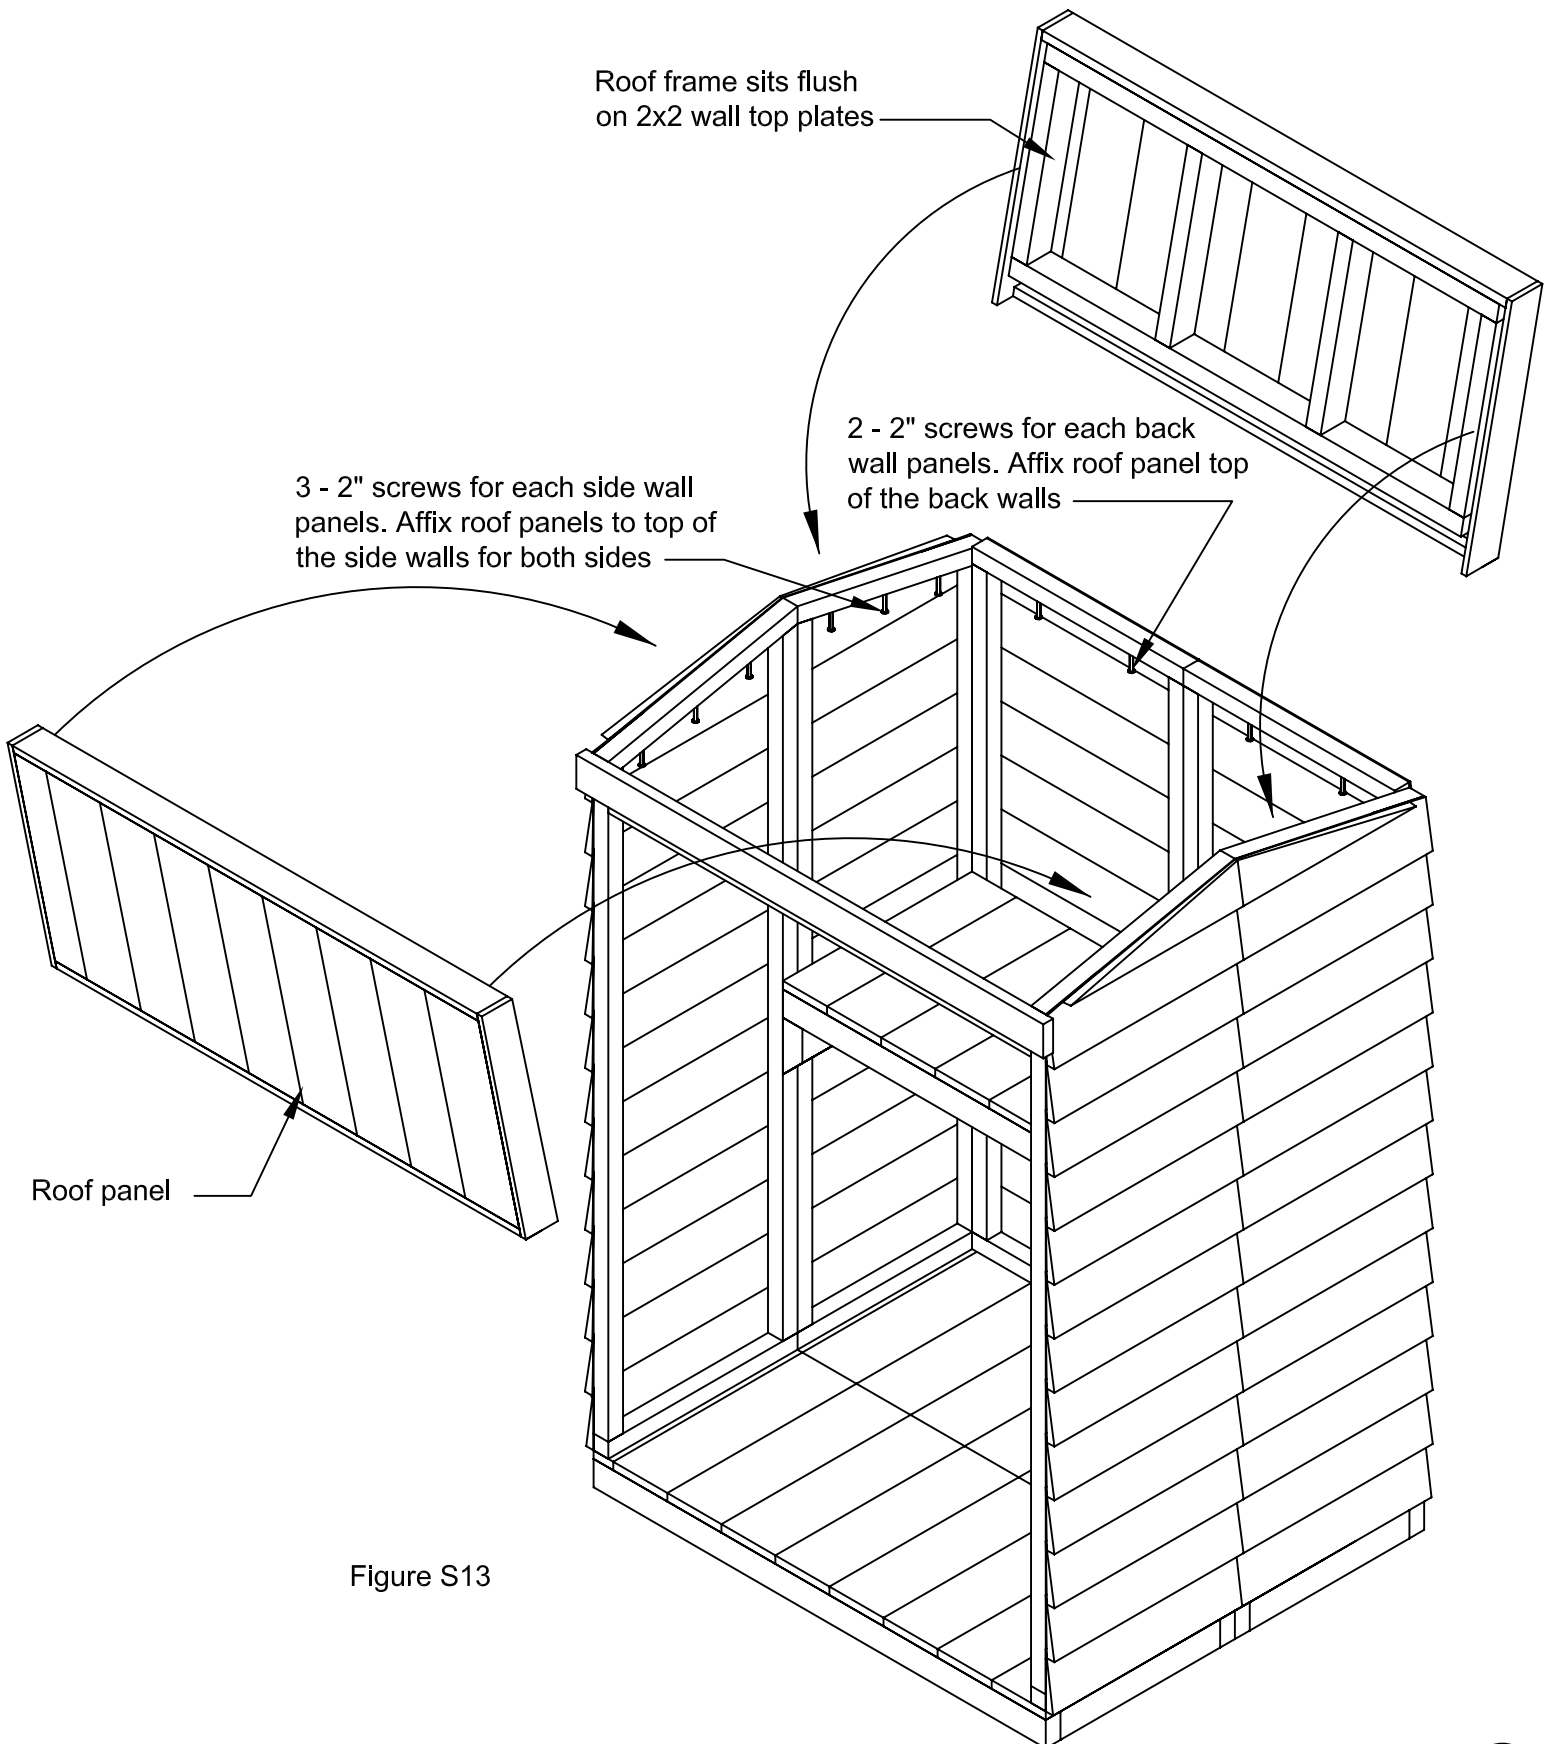

Figure S13
14. Drop the roof panels into place. Adjust its position by making sure the roof frame sits flush on top of the 2x2 framework of the walls. From the inside of the structure, secure the roof with 2" screws up through the 2x2 wall frame and into the roof frame, see Figure S13.